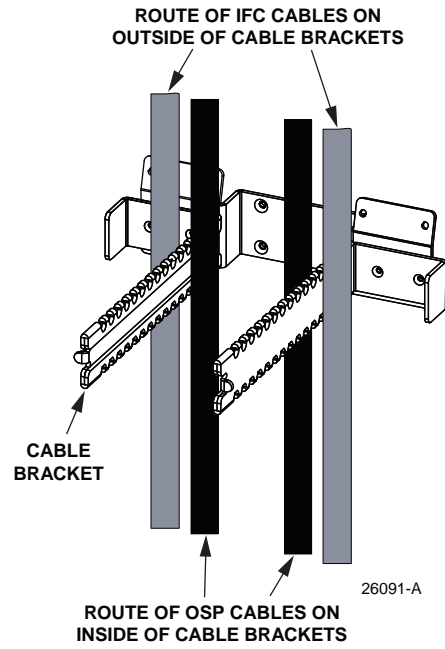
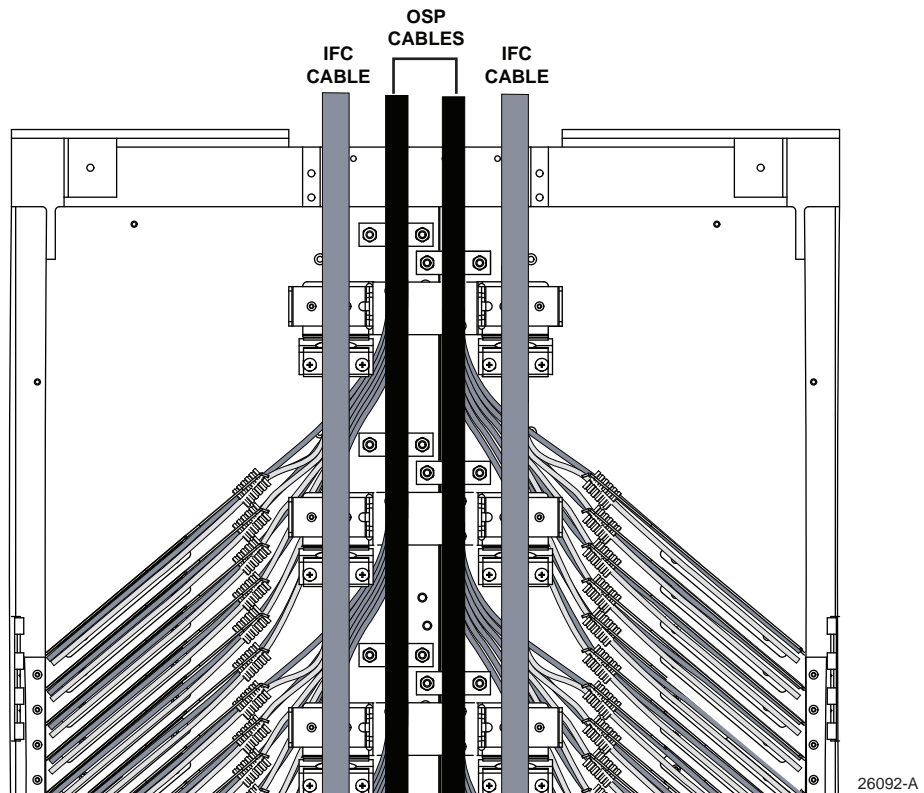
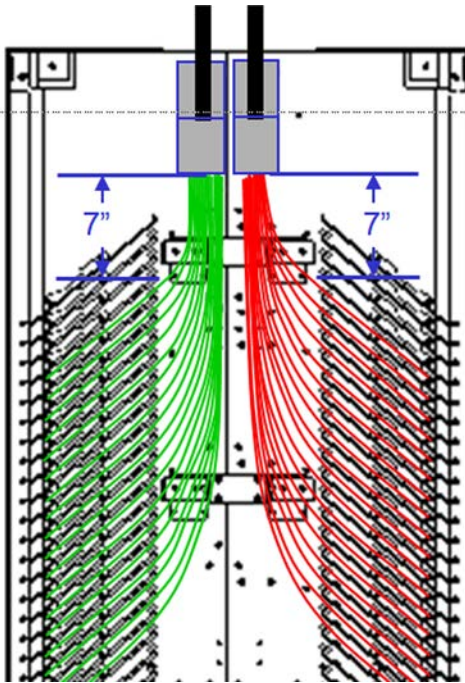

Figure 33. OMX Vertical Management
Figure 34. OMX Splice Cabinet Vertical Management Channels
Figure 35. 864-Fiber OSP Blocking Kit Position
- b. Place 864-fiber cable inside OMX Splice Cabinet into the center area of the cable management channels as shown in Figure 33 and Figure 34.
- c. Mark the cable to identify the blocking kit location as well as the front of the cable for positioning of the Blocking Kit as shown in Figure 35.
6. Complete the OSP routing per Figure 34,
- a. Place 192-fiber or 288-fiber cables inside OMX Splice Cabinet into either the outer right or left area of the cable management channels as shown in Figure 33 on Page 33 and Figure 34 on Page 33.
Figure 34 shows Detail A, refer to Figure 43. For OSP cable preparation, follow the steps shown in Figures 35 and 36.